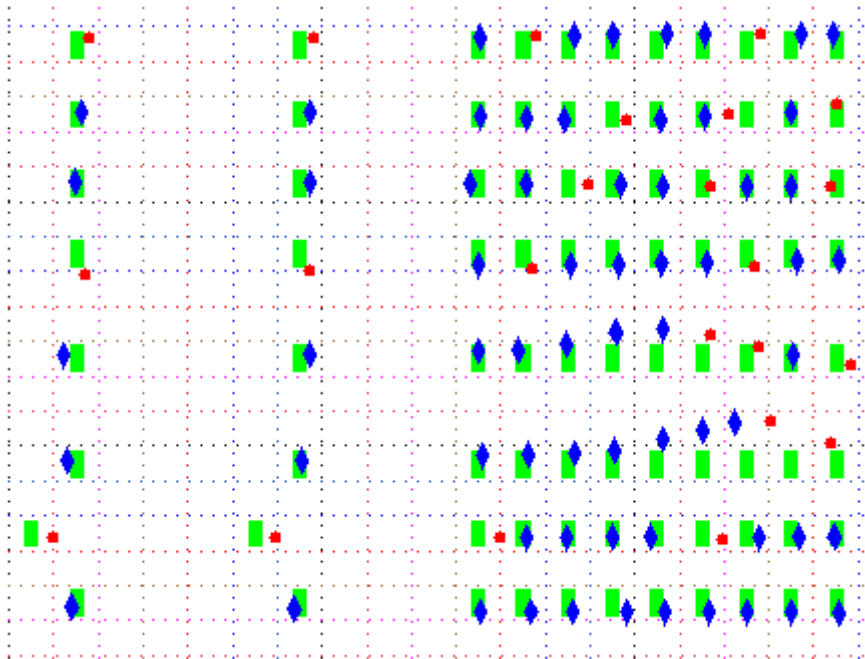

Figure 17: Close-up of output complete with dummy electrodes (blue diamonds)
19. Note that the position ascribed to the dummy electrode is the position of your cross hair when you clicked. In order to not distort the trapezoids too much you may need to put a dummy electrode in the wrong row of the matrix then use the move button the re-assign it to the correct row in the matrix. This can be seen clearly in Figure 17 on the third and forth lines from the bottom.